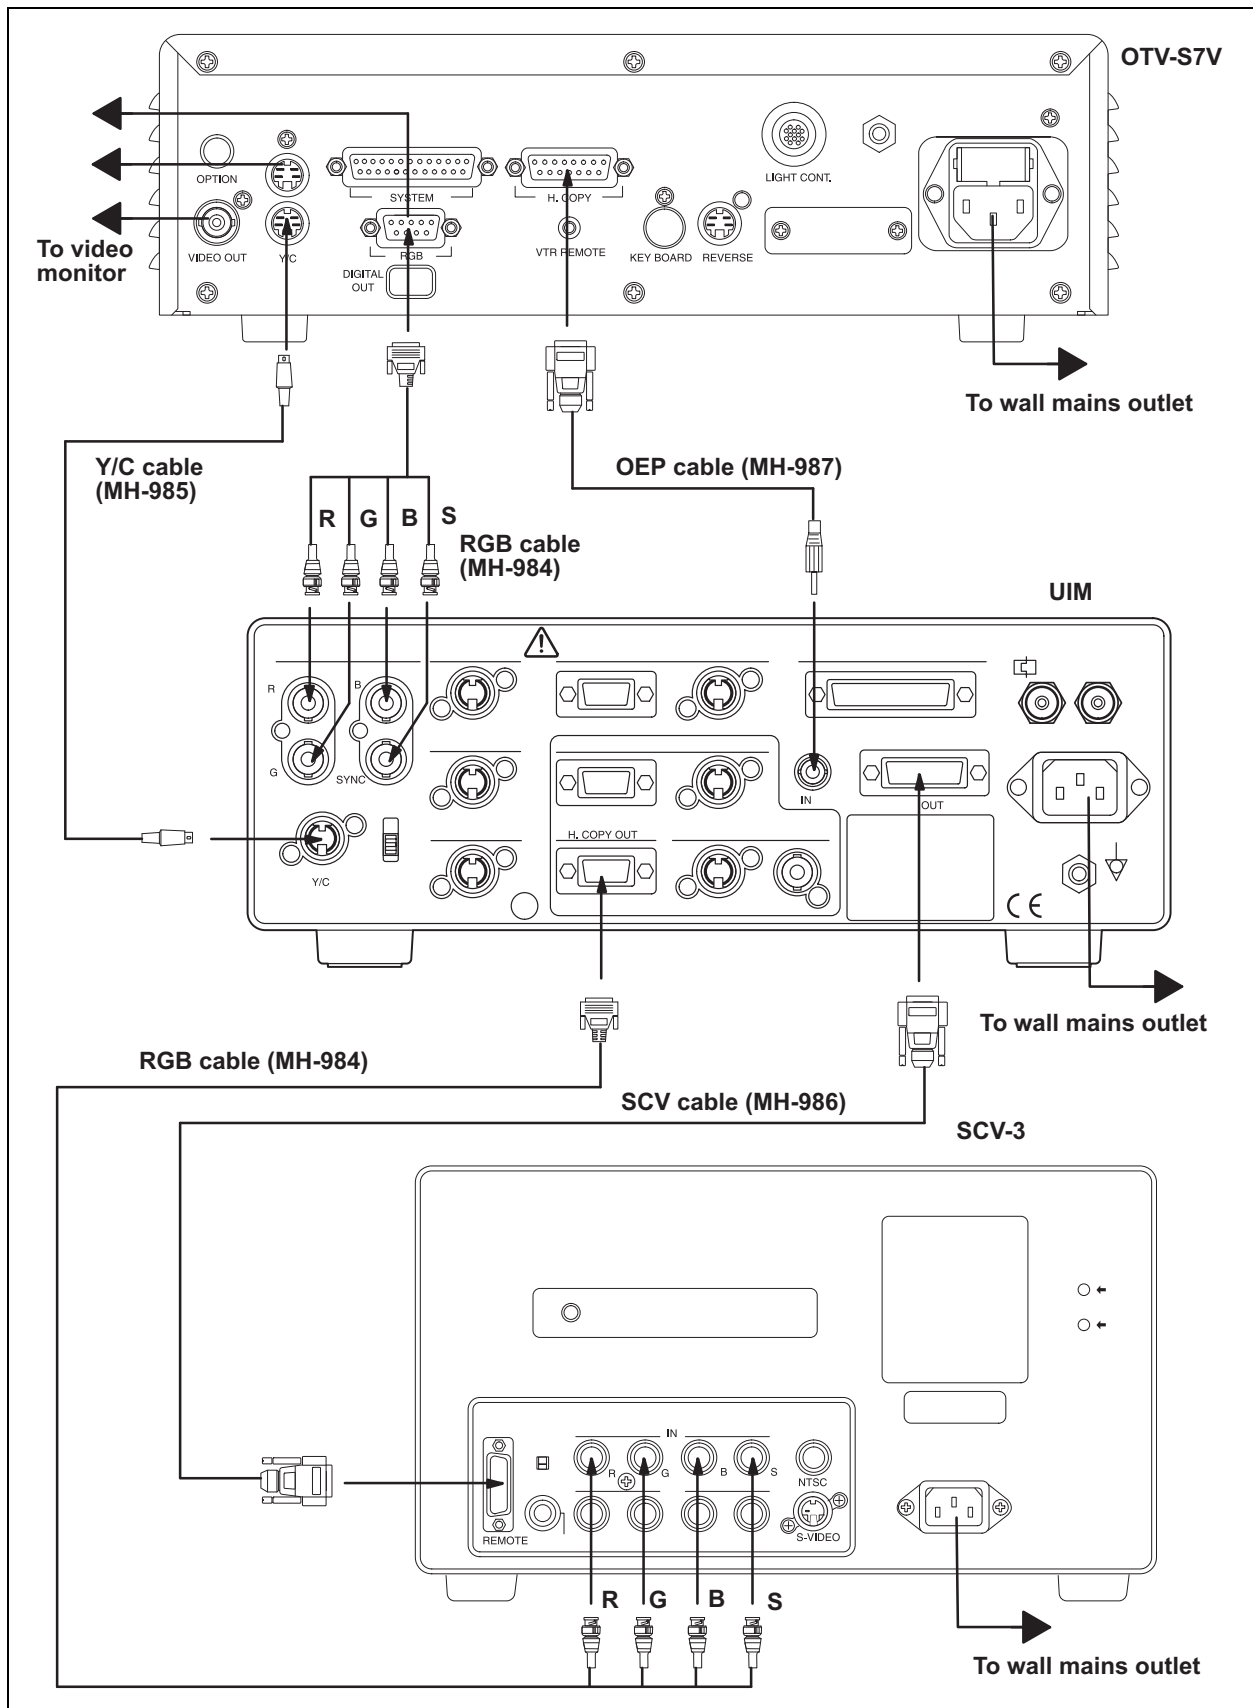

Figure 3.11
2. Connect the UIM to the OTV-S7V and SCV-3 or OEP-3/OEP as shown in Figure 3.11 or 3.12.
- If the UIM is not being used in conjunction with the SCV-3 or OEP-3/OEP, there is no need to connect the OEP and RGB cables as shown in Figure 3.11 and 3.12.